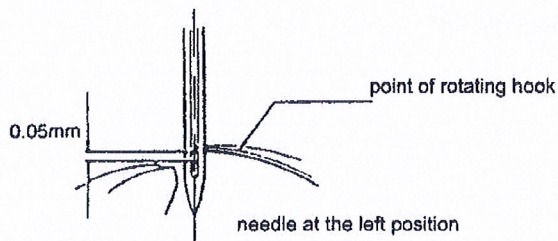
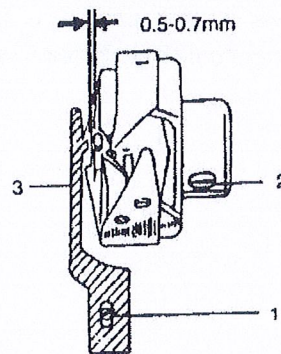

Figure 22
Figure 23
(1) Set the width of swaying needle to the maximum and turn the belt pulley toward the operator manually to make the needle stand at the left position and the shuttle point at the centre of the needle. At the moment the length from the needle hole till the shuttle point should be 0~0.5mm (see Figure 22)
(2) If the height of needle staff is not in the correct position, it is necessary to remove the panel, release the connecting screw on the needle staff, and then raise or lower the staff to the standard height. After that, re-tighten the screw.
4. Mounting and Dismounting of Rotating shuttle (see Figure 23)